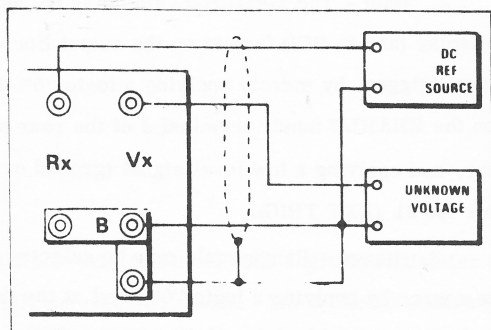

Figure 2-4. DMM Connections for RATIO Measurement
4. Install links as shown in Figure 2-4. (Link B may be omitted.)
5. Connect voltage input signal to the front panel Vx connectors as in Figure 2-4.
6. Connect the reference voltage input signal to the front panel Rx connectors as shown in Figure 2-4.